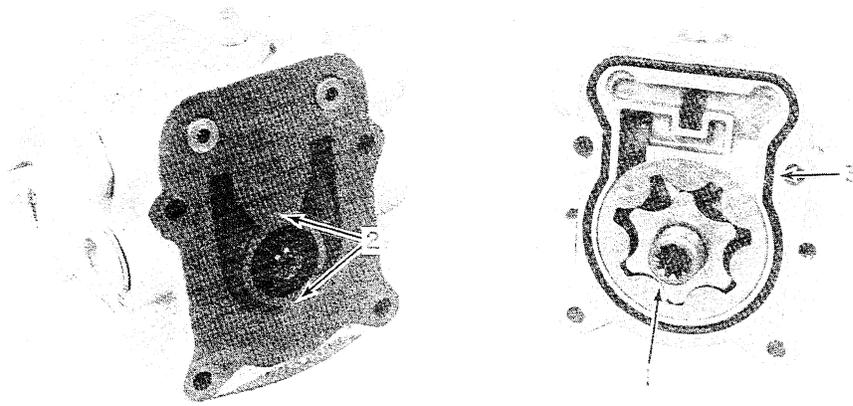

FIGURE 35
- Quad ring (8) may have to be removed from the cam plate shaft before the inner race (6) can be removed on the keyway end of the shaft.
21. Figure 35 shows the left (front) hydrostatic pump with the adaptor plate removed. This adaptor plate contains a gerotor type charge pump shown at (1). Otherwise, the remainder of the hydrostatic pump assembly is disassembled in the same procedure used for the right hydrostatic pump.
- B. Inspect the flat surface (2), Figure 35, of the left pump back plate for wear in the gerotor pump area. The area should be smooth and free of scratches or burrs.
(See Figures 35 and 36)
- C. Install this inner gear assembly in the outer gear assembly as shown at (1), Figure 35. Lubricate with STP.
14. Install O-ring (3), Figure 35, in its groove and hold in place with a clean, clear grease. Assemble adaptor plate to the pump back plate using the four bolts previously removed. The two long bolts go in the upper holes (9), Figure 23, and short bolts in the lower holes (10), Figure 23.